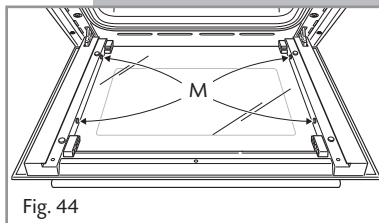

Fig. 44
- Check that the four rubber pads are in place (M in fig. 44).